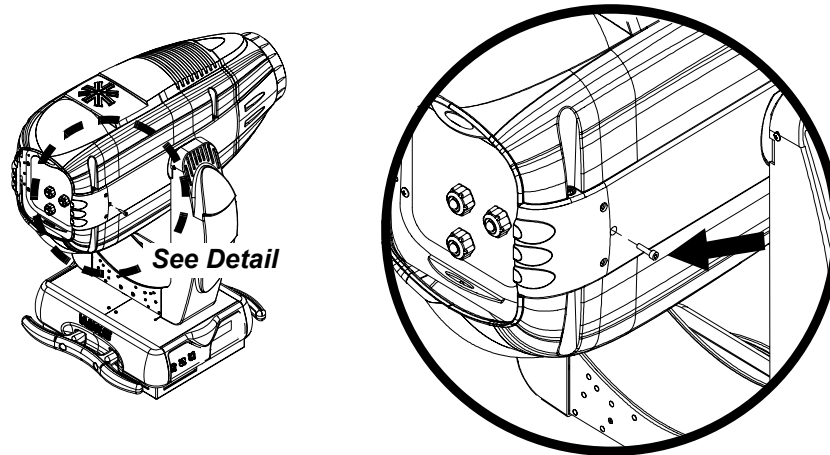
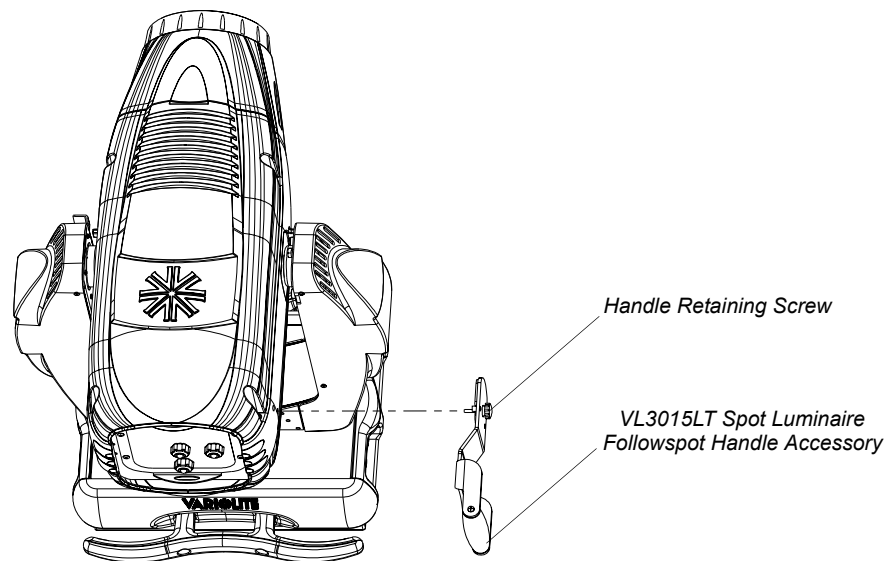

Figure 1: Rear Rail Screw Removal
Figure 2: VL3015LT Spot Luminaire Followspot Handle Installation
Note: Figure 1 and Figure 2 (on page 2) illustrate handle installation on the right side of the luminaire. The VL3015LT Spot Luminaire Followspot Handle can be installed on either side. Installation instructions are the same for either installation method. Up to two handles may be installed on a luminaire.
- As shown in Figure 1, at desired side of luminaire, remove indicated screw from back portion of side rail. Keep screw in a safe place for later use (if handle is removed and luminaire placed back into normal operational service).
- As shown in Figure 2, at desired side of Luminaire, position VL3015LT Spot Luminaire Followspot Handle where retaining screw is inline with screw hole (where screw was removed in previous step).